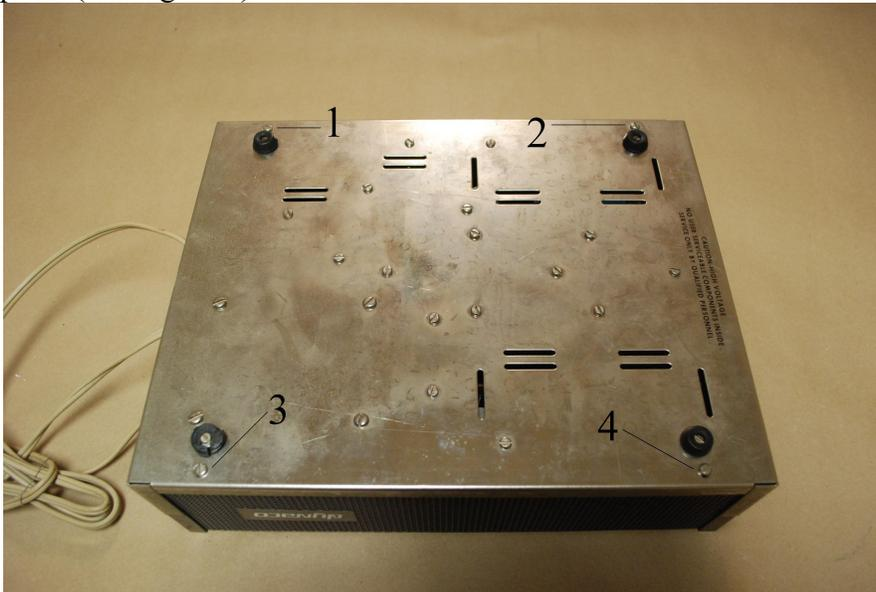

Figure 3-Location of the four screws that hold the cover to the base
2. Remove the four screws along the outside edge of the bottom that hold the cover in place (see Figure 3).